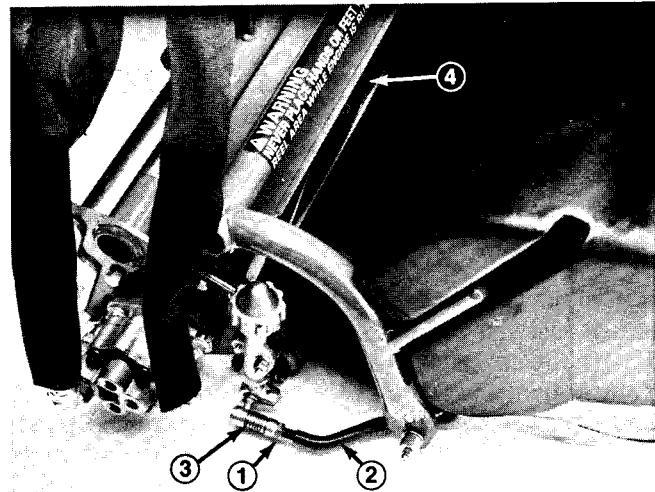
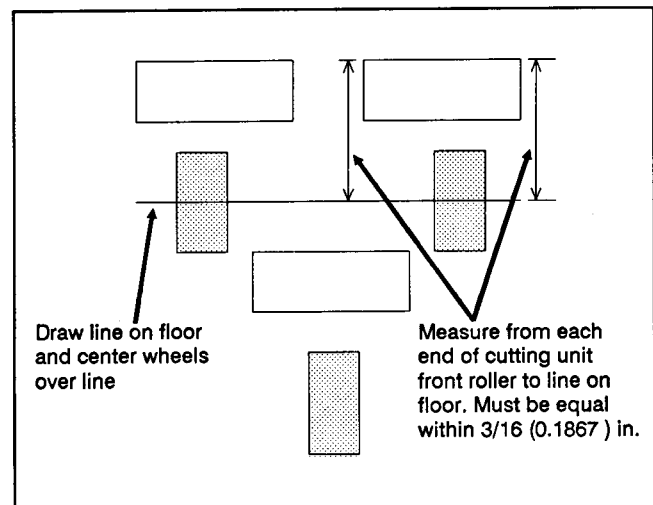

Figure 23a
Figure 23b
3. Loosen the jam nuts on the pull arms and adjust the ball sockets until there is 1/4 in. to 1/2 in. (6 to 13 mm) clearance between the lip of the basket and the reel blades (Fig. 23a). This prevents grass clippings from dropping on the ground.
5. Make sure each of the three (3) cutting units track straight with the traction unit:
A. On a smooth, level surface, draw a straight line on the floor (Fig. 23b). Push traction unit forward (removing slack from pull arms) so center of each front wheel is on top of the line. Use a plumb bob or square to make sure each wheel is centered on the line.